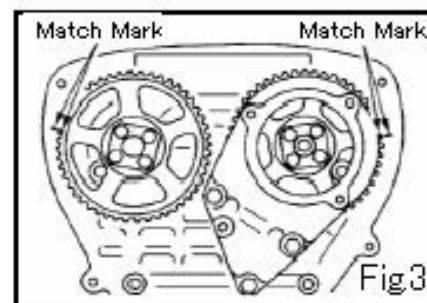

Fig3
- Turn the slide cam pulley clockwise about 30 degree, and set the matchmark on the slide pulley. (See Fig.3)